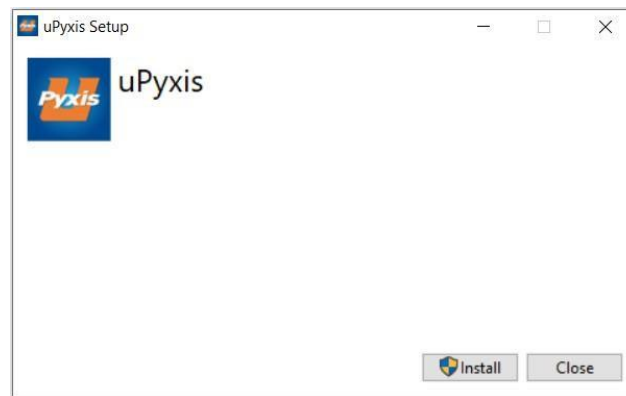

Figure 10. uPyxis® Desktop App installation
3. On uPyxis® Desktop App, click Device → **Connect via USB-Bluetooth** (Figure 10).
4. If the connection is successful, the ST-774 and its Serial Number (SN) will be displayed in the left pane of the uPyxis® window.